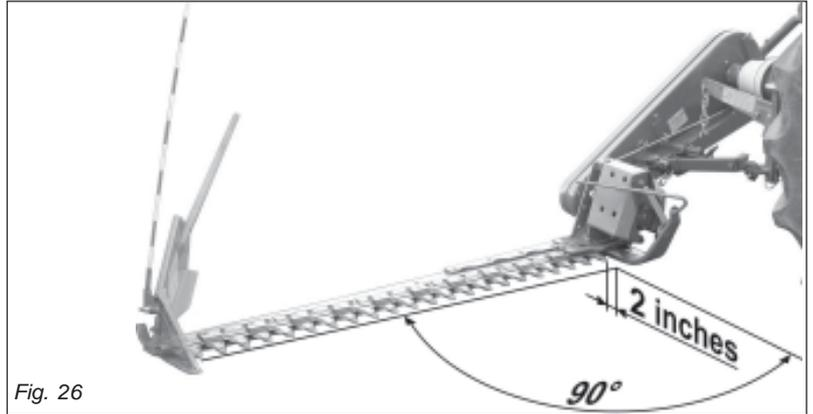

Fig. 26
- Fit the sickle bar by adjusting the tractor tie-rods so that, when the sickle bar attachment is fitted to the three points on the tractor, the external tip of the cutting arm is approximately 2 inches forward with respect to the arm base (Fig. 26).